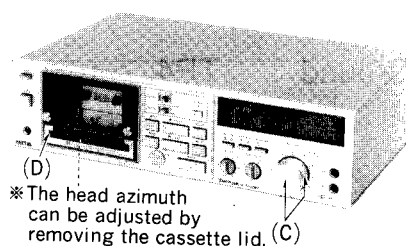
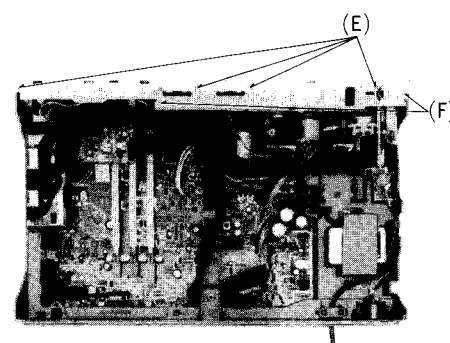
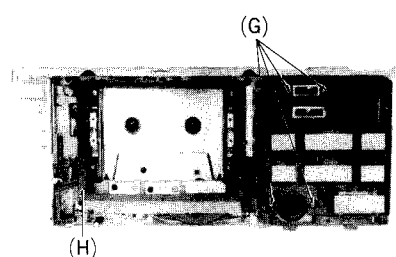
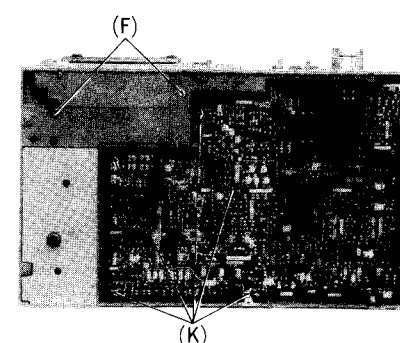

Fig. 2
Fig. 3
Fig. 4
Fig. 6
<p>A Head azimuth adjustment</p> <p>Condition:</p> <ul style="list-style-type: none"> • Playback mode <p>Equipment:</p> <ul style="list-style-type: none"> • VTVM • Oscilloscope • Test tape (azimuth) <ul style="list-style-type: none"> ... QZZCFM • Tape path viewer <ul style="list-style-type: none"> ... QZZCRD 	<p>Record/playback head adjustment</p> <ol style="list-style-type: none"> 1. Test equipment connection is shown in fig. 2. 2. Playback azimuth tape (QZZCFM 8kHz). 3. Adjust record/playback head angle adjustment screw (B) in fig. 3 so that output level at LINE OUT becomes maximum. 4. Measure both channels, and adjust levels for equal output. 5. After adjustment lock head adjustment screw with lacquer.  <p>Fig. 2</p> <p>Erase head adjustment</p> <ol style="list-style-type: none"> 1. Test equipment connection is the same above but use the tape path viewer (QZZCRD) instead of test tape (QZZCFM). 2. Playback this tape. 3. Adjust screw (C) shown in fig. 4 so that the tape may not get curled or malformed by tape guide of the erase head. 4. After adjustment, lock head adjust screw with lacquer.  <p>Fig. 3 Fig. 4</p>
<p>C Playback frequency response</p> <p>Condition:</p> <ul style="list-style-type: none"> • Tape selector <ul style="list-style-type: none"> ... Normal position • Playback mode <p>Equipment:</p> <ul style="list-style-type: none"> • VTVM • Oscilloscope • Test tape ... QZZCFM 	<ol style="list-style-type: none"> 1. Test equipment connection is shown in fig. 2. 2. Place UNIT into playback mode. 3. Playback the frequency response test tape (QZZCFM). 4. Measure output level at 12.5 kHz, 8 kHz, 4 kHz, 1 kHz, 250 Hz, 125 Hz and 63 Hz, and compare each output level with the standard frequency 315 Hz, at LINE OUT. 5. Make measurement for both channels. 6. Make sure that the measured value is within the range specified in the frequency response chart. (shown in fig. 6).  <p>Fig. 6</p>
㊦ Playback gain Condition: * Tape selector ... Normal position * Playback mode Equipment: * VTVM * Oscilloscope * Test tape ... QZZCFM	<ol style="list-style-type: none"> 1. Test equipment connection is shown in fig. 2. 2. Playback standard recording level portion on test tape (QZZCFM 315Hz, 0 dB), and using VTVM measure the output level at LINE OUT jack. 3. Make measurement for both channels. <div style="border: 1px solid black; padding: 5px; text-align: center;"> Standard value: $0.7V \pm 1.5\text{ dB}$ </div> Adjustment <ol style="list-style-type: none"> 1. If measured value is not within standard, adjust VR3 (L-CH), VR4 (R-CH) (shown in fig. 1). 2. After adjustment, check "Playback frequency response" again.